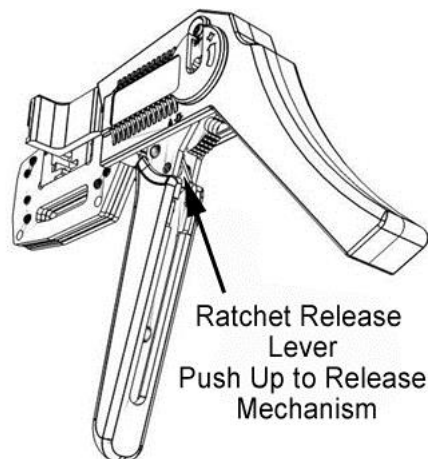

Figure 3
**CAUTION:** Should a contact become stuck or jammed in a partially closed position, DO NOT use force to open or close the handles. The tool will easily open by pushing the ratchet release lever up (Figure 3).